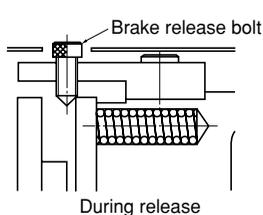

Fig.39
- (1) Remove the brake release bolts arranged diagonal to each other, and remove the spacer. Then screw in the bolts with a hexagon wrench, and the brake will be released. Be careful not to turn the brake release bolts excessively. (Check to see if the brake is released, while turning the brake release bolts.) (See Fig.39.)